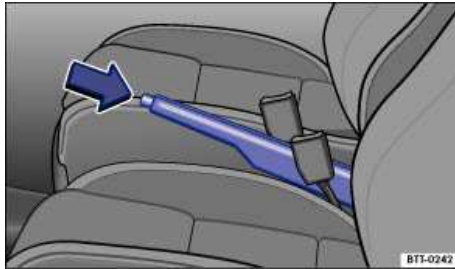

Fig. 119 Between the front seats: Parking brake.
- Pull the lever up slightly and press the release button  $\Rightarrow$  fig. 119 (arrow).